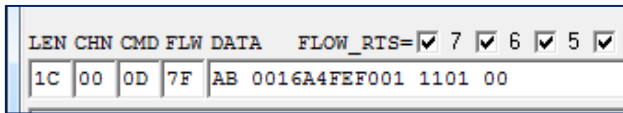

Figure 7: Updated command fields
3. To create an HID connection, select **Connection Make** from the drop-down menu on the HID device module. This updates the command fields (Figure 7).